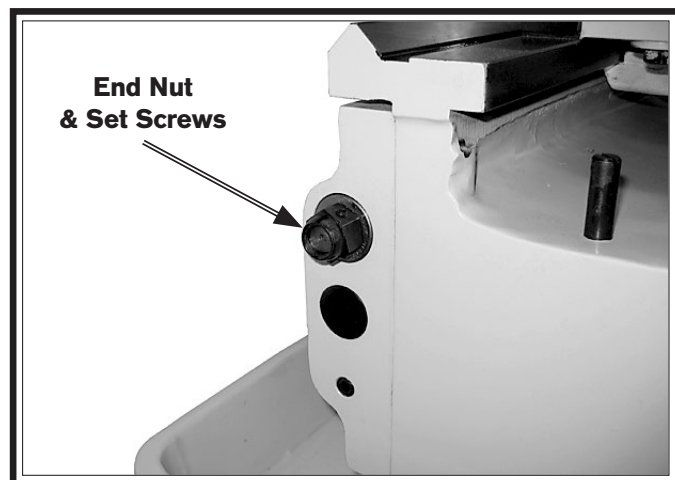

Figure 115. Leadscrew end nut.
2. Loosen the two set screws in the leadscrew end nut (see **Figure 115**).